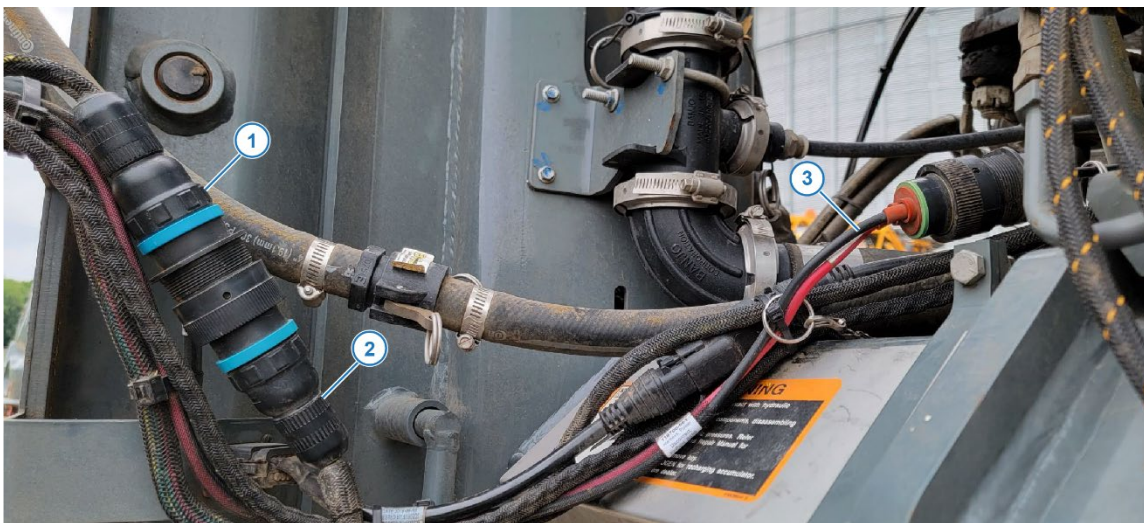

Figure 12 — Chassis Harness Routing
16. *Figure 12:* Route hub side of the adapter harness (1) and battery power and ground cables (3) down lower right-hand lift arm of boom and towards tractor/boom attachment point.
17. Route cab side of the adapter harness (2) under machine and up toward the tractor/boom attachment point.